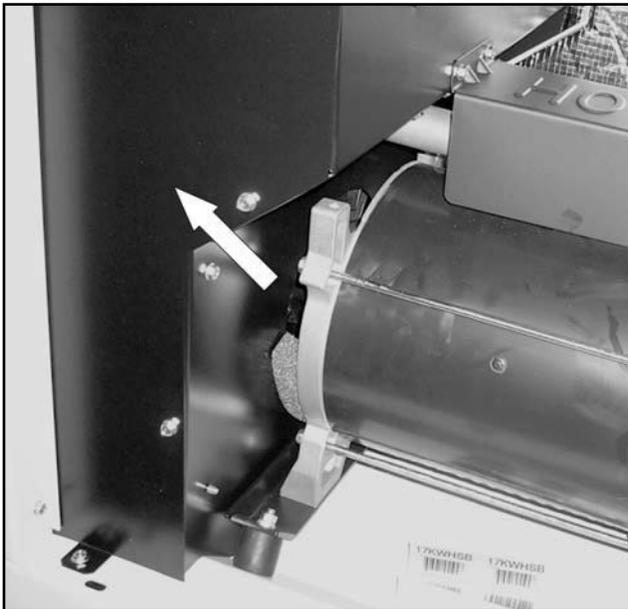

Figure 24.
2. Remove Side Exhaust Enclosure Cover: Using a 10mm socket, remove the five bolts from the exhaust side cover. Remove side covers. See Figure 24.